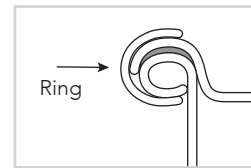
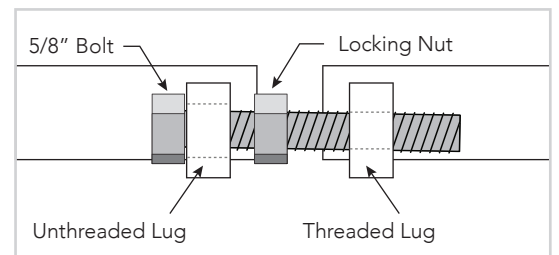

Figure 3
Figure 4
- POSITION AND SEAT RING:** Lugs should be placed downward. You may need to release the locking nut (shown in figure 4) to start. Ensure the inner channel of the closure ring engages entire drum lip and cover (see figure 3). Use a mallet to apply horizontal force to further seat the inner channel of the ring on the cover and drum lip.
- INSERT BOLT:** Place through the unthreaded lug of the ring. Assemble the locking hex nut onto the threaded end of the bolt and tighten into the threaded lug (see figure 4). Close the ring to an initial gap of about 1 3/4".